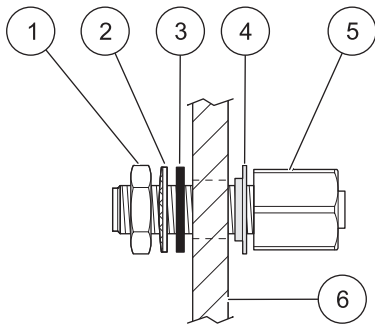

Figure 3 Optional bulkhead connector (Cat. No. 71211-00)
- 1. Thread the isolator washer (Figure 3, item 4) onto the connector, noting the orientation.
- 2. From the display module side of the panel, thread the isolator washer (Figure 3, item 3), lock washer (Figure 3, item 2) and lock nut (Figure 3, item 1) onto the probe module side of the panel and hand-tighten.